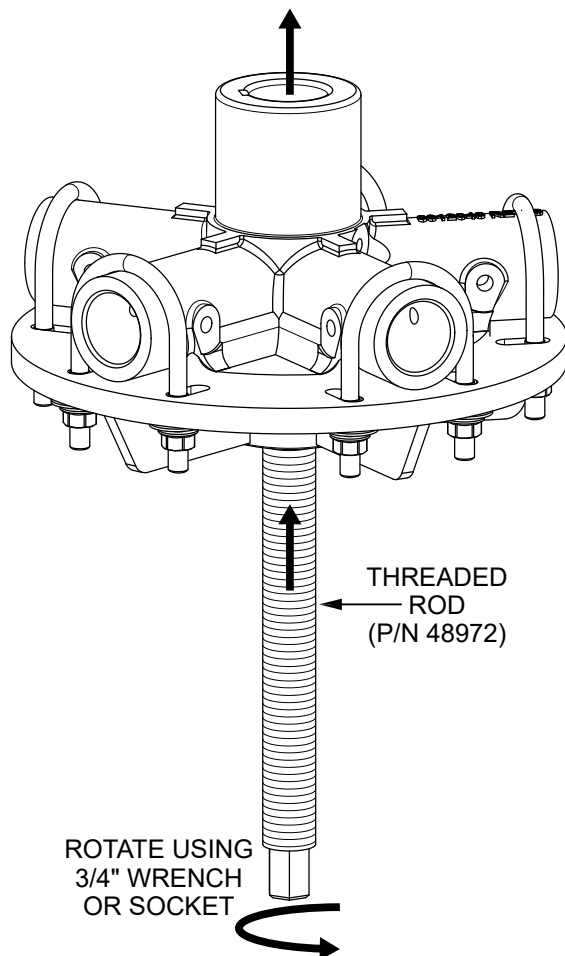

Figure 9. Rotate Threaded Rod To Remove Spider Assembly
4. Insert the **threaded rod** (P/N 48972) into the spider puller as shown in Figure 9.
5. Use a 3/4-inch hand wrench or socket to rotate the threaded rod (Figure 9), driving it up through the spider base plate. Remember to **lubricate the Zerk grease fitting** with a multipurpose grade grease **every three 360-degree rotations** of the threaded rod.